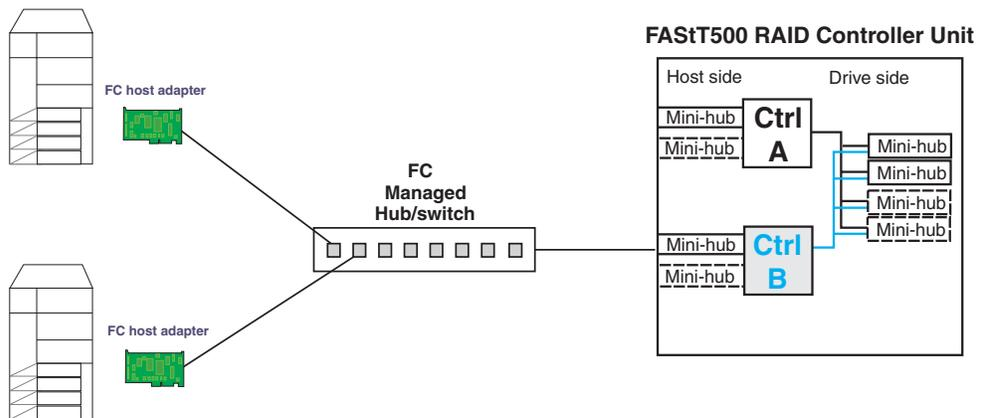

Figure 116. All I/O Flowing Through Controller A
2. All I/O is flowing through controller A. This yields the diagram shown in Figure 116 for debugging.